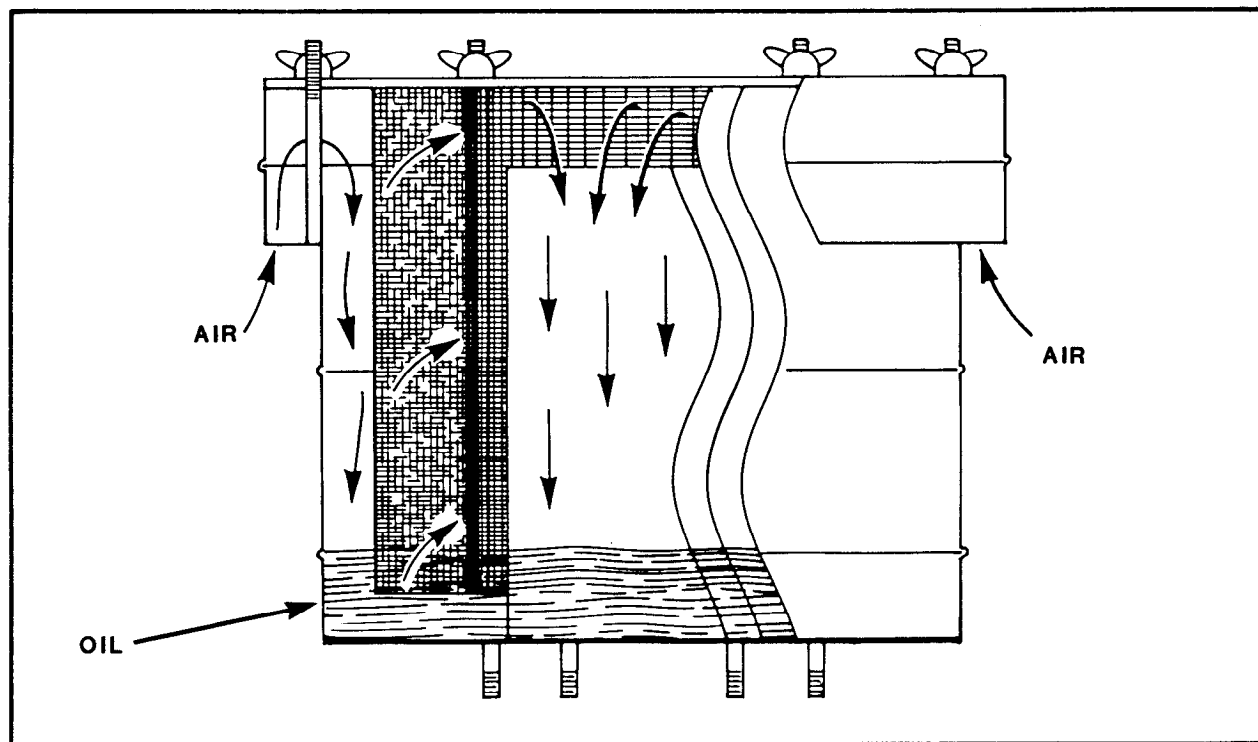

FIGURE 4-1. Oil-Bath Intake Filter
**1.2 Oil-Wetted Type Filter.** Wet filters have filter elements that are coated with a film of oil. The oil film catches airborne particulates before they reach the actual filter element media. Wetted type filters are of two designs, oil-wetted and oil-bath filters. In an oil-wetted filter, a coating of oil is deposited on the filter element, which is usually made of layers of wire mesh. The oil coating is intended to adhere to the element for a fairly long service period. The airborne particulates are impinged or trapped on the filter element which has been covered with a film of oil. In an oil-bath filter (figure 4-1), the same viscous impingement principle is employed. However, the airflow is directed through the oil sump, carrying oil with it to the filter element where the oil collects and washes the impinged particles down to the oil sump, forming sludge. The self-washing aspect of the oil-bath filter extends the time between maintenance routines.